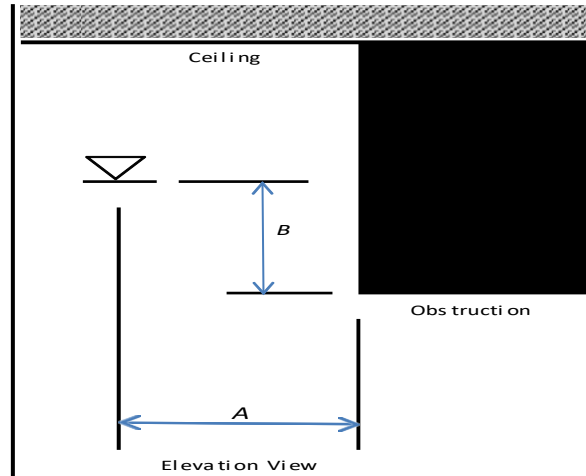

FIGURE 6.4.6.3.6.2 Position of Sprinklers to Avoid Obstructions to Discharge (Residential Upright and Pendent Spray Sprinklers)
Note: For (A) and (B), refer to Figure 6.4.6.3.6.2